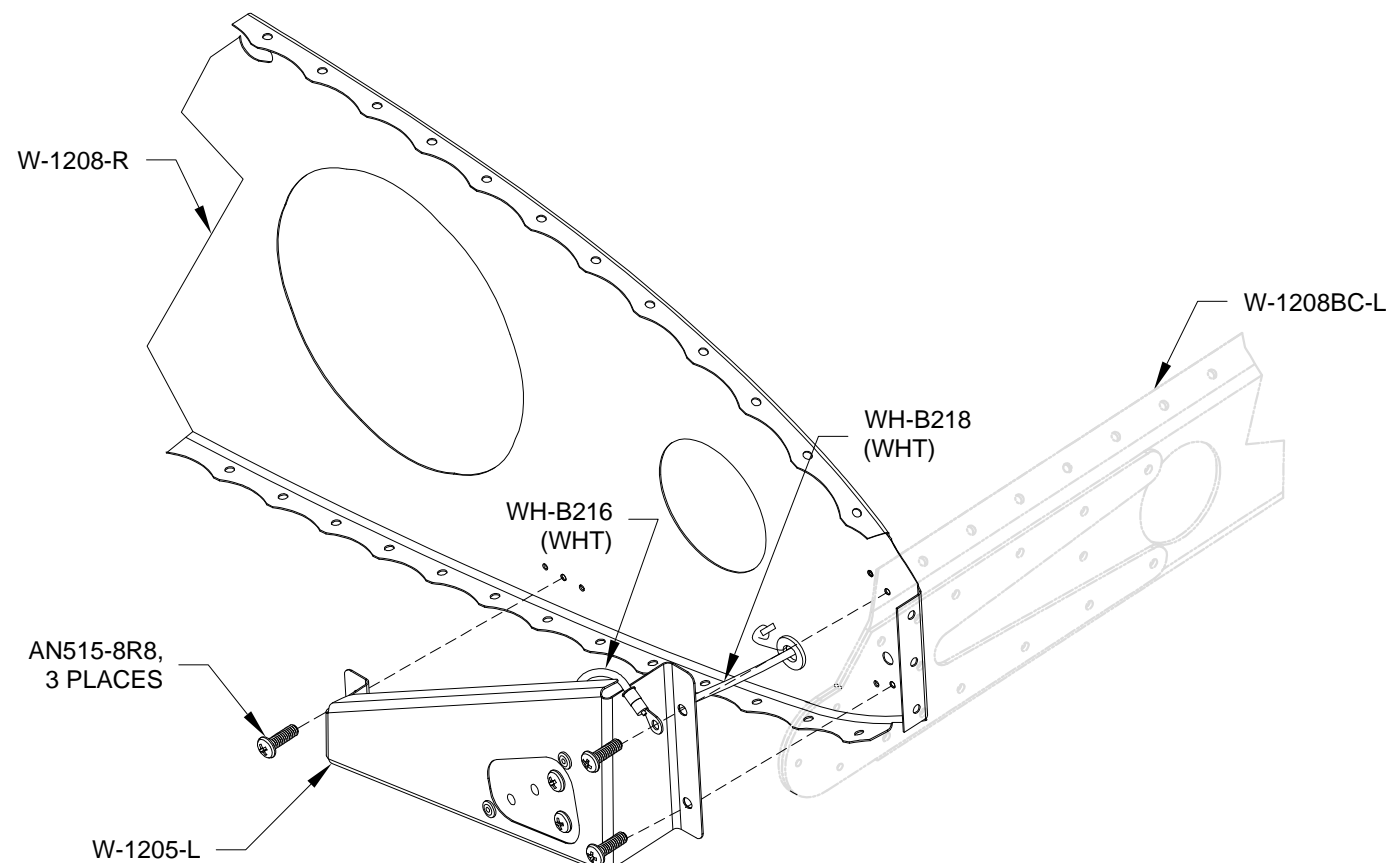

FIGURE 3: TERMINAL BRACKET INSTALLATION
Step 7: Install the W-1205-L and W-1205-R Terminal Brackets as shown in Figure 3. Take care not to pinch wires between the attachment points. Route the WH-B216 (WHT) Terminal Ground Wires around the forward flange of the terminal brackets and fasten the connector with the terminal bracket mounting screw. Other wires should be neatly tucked behind terminal bracket.